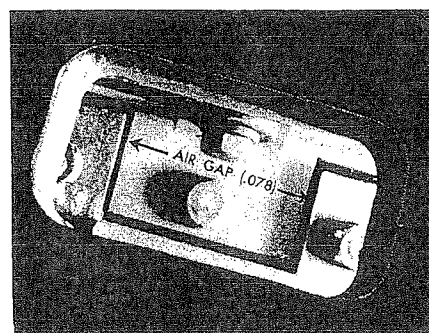

Fig. 8
8. Remove the nameplate from the side of the body casting to gain access to airgap. (See Fig. 8).
9. Working through the port in the side of the body casting (Fig. 8) and using a non-magnetic feeler gauge approximately .072" thick (furnished with